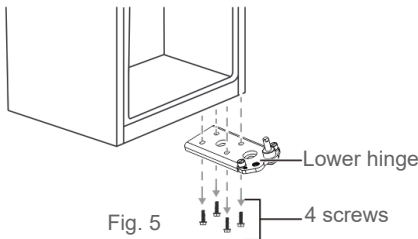

Fig. 5
5. Remove the lower hinge after removing four screws (→ Fig. 5).